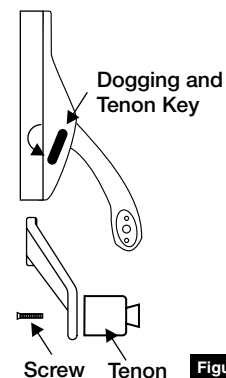

Figure 5
1. If bolt has dogging function, undog cases using furnished key in side of case by loosening lock-down screw. (Figure 5)
2. Using key furnished, back out screw and remove crossbar tenon from active case lever. (Figure 5)